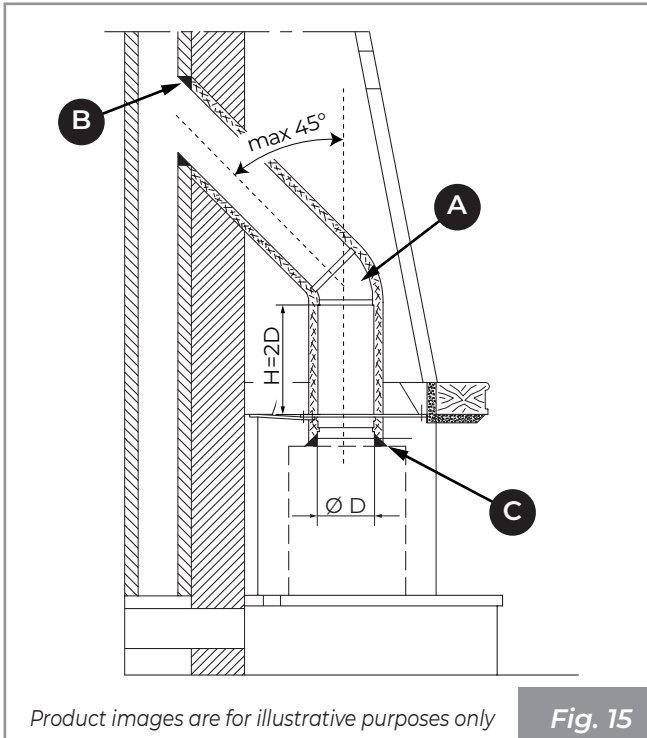

Fig. 15
The fume duct (A - Fig. 15) between the firebox and the chimney must have the same cross-section as the fume outlet of the appliance, as shown on the technical data sheet "Technical features" on page 49.
- Direct connection between Ecopalex and chimney flue.** In some cases, it is necessary to adapt the existing hole in the hood (or make a new one) in order to facilitate the passage of the flue gas duct (A - Fig. 15).
Correct installation of the fume duct between the appliance and the fireplace must be watertight, sealing all the linking joints (B, C - Fig. 15) with material suitable for high temperatures.